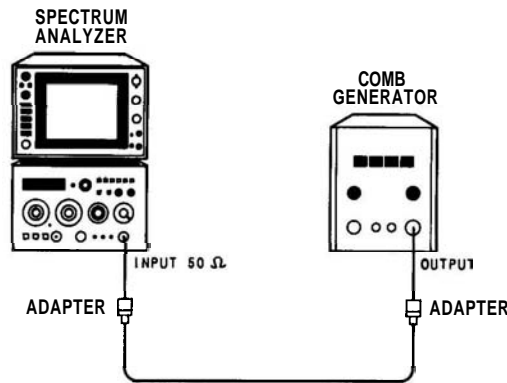

FIGURE 4-5. RESIDUAL FM TEST SETUP
2. Connect OUTPUT of comb generator to spectrum analyzer INPUT  $50\Omega$  as shown in Figure 4-5.